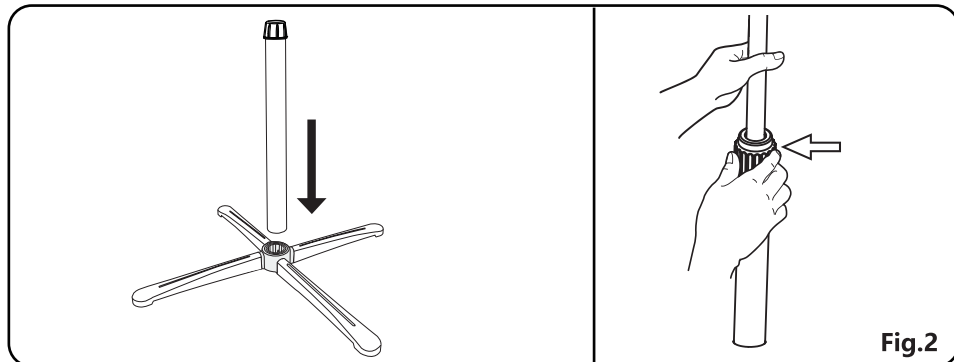

Fig.2
2. Unscrew the height adjustment ring to loosen it, then slide down the screw cover. Lift the internal pole to the max. height while preventing the internal pole from slipping into the extension pole. Then, reattach the height adjustment ring and tighten. (Fig. 2)